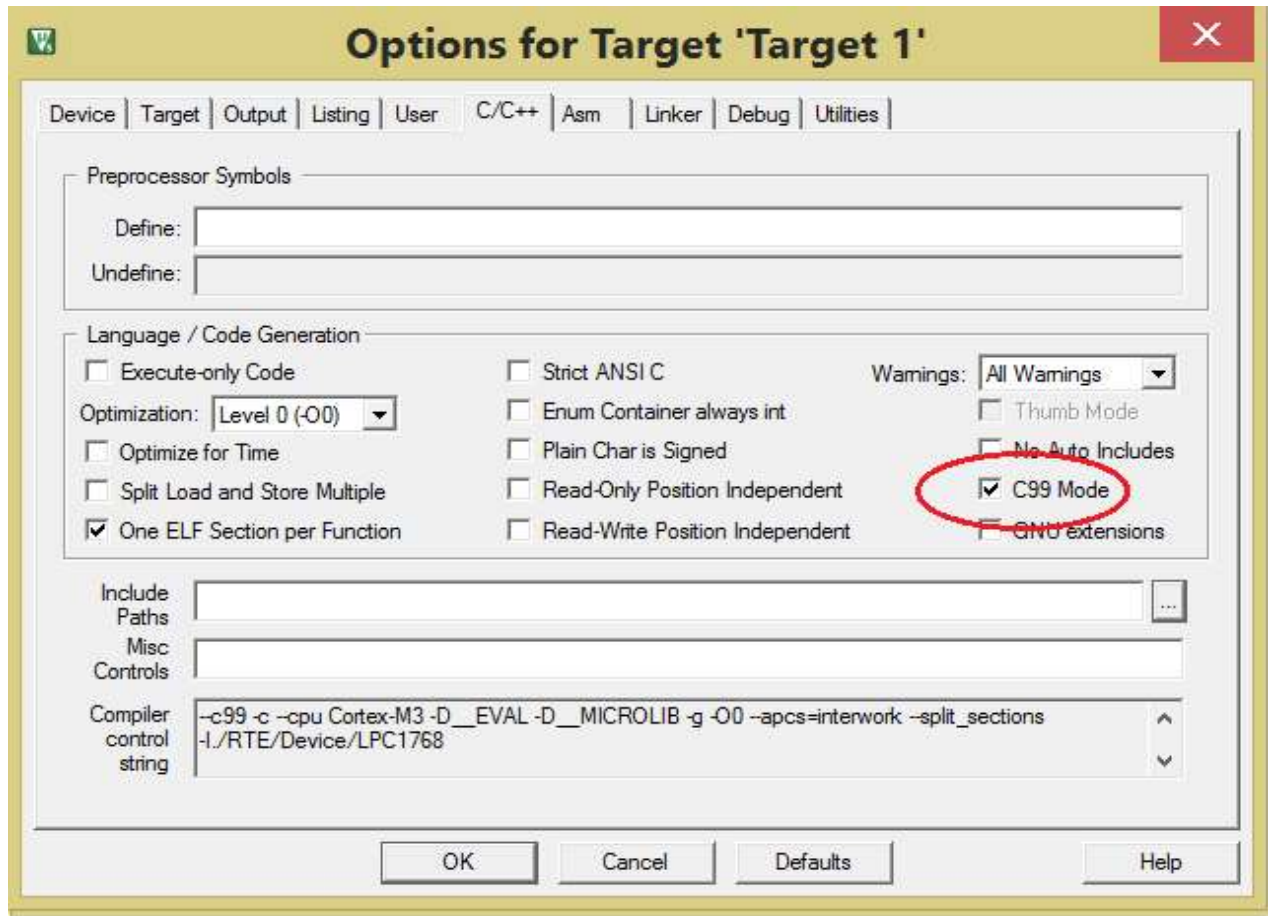

Figure 12
8. Select C/C++ and check **C99 Mode** option as shown in Figure 12.